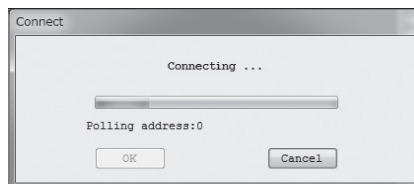

Fig.10
- ⑦ As you click "OK" and start the connection process, a message box like the one in Fig. 10 appears. A bar graph in the middle of message box indicates progress of connection process.